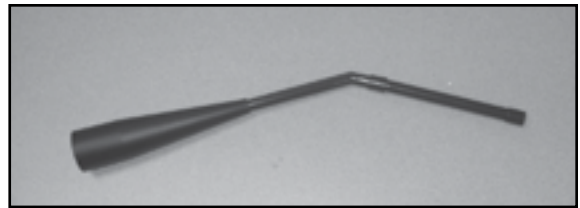

Figure 17.3
3. Assemble the crevice tool from the Micro Cleaning Kit to attach to a Shop Vac. **Figure 17.3**.